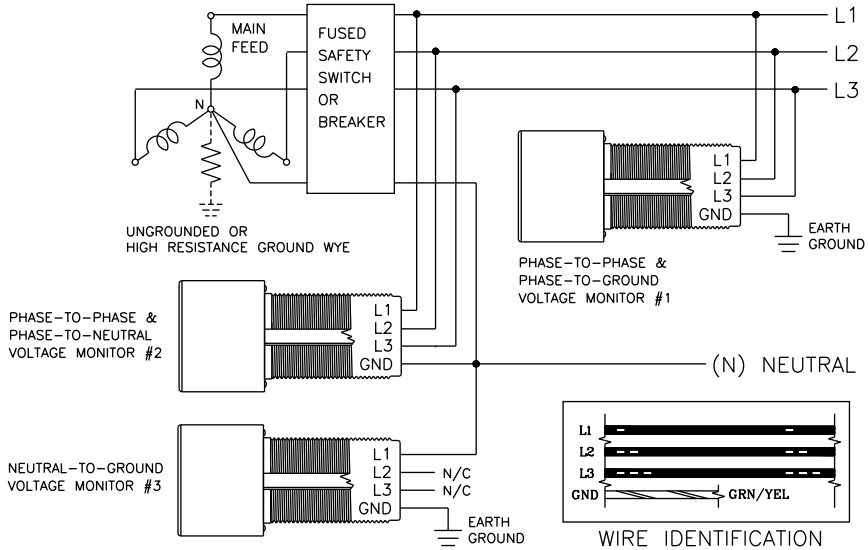

Fig. 2
7. Ungrounded or high resistance Wye configured power requires (2) additional units to include all possible voltages the Neutral line introduces. Wire as shown in Figure 2.